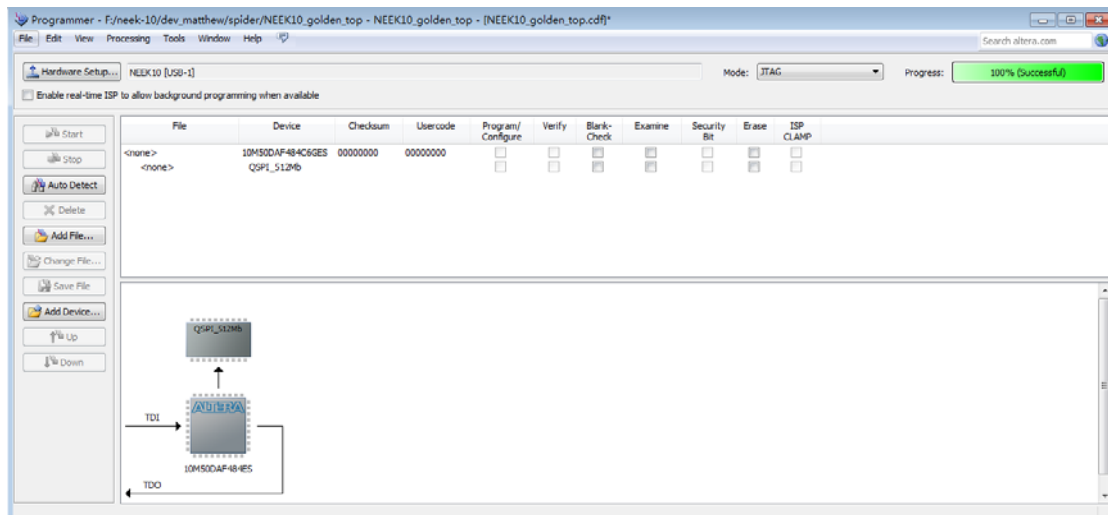

Figure 7-8 Auto Detect The QSPI Flash 1
(1) The original command for convert the elf into flash is:
- (2) You can also convert the elf file into the hex data by executing `test.bat` in the `software_batch` directory in the project directory.
- Press Auto Detect button and a QSPI flash will be detected as shown in **Figure 7-8**.